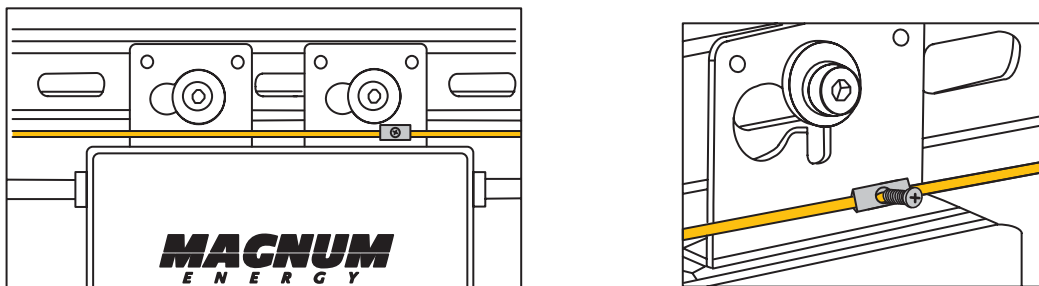

Figure 7, Grounding the System using the Grounding Clamp
1. Connect the grounding electrode conductor to the MicroGT 500 inverters' ground clamps (Figure 7).